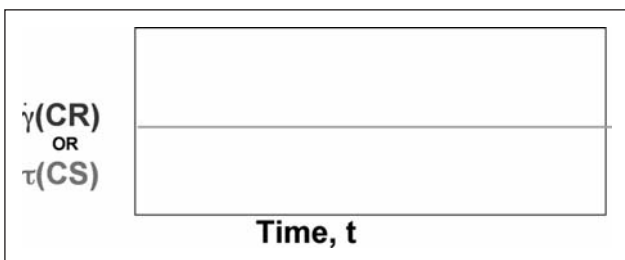
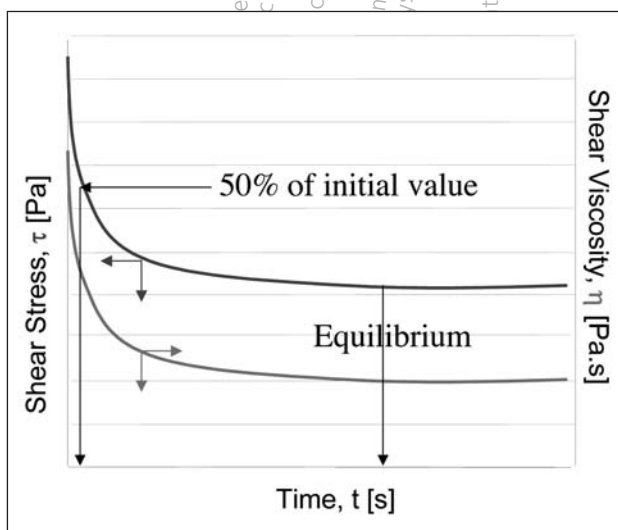

Figure 4: Input for constant shear test
Figure 5: Results from a constant shear test
- A constant shear rate (CR) or shear stress (CS) is chosen, as is the number of measurement points.
- The material is subjected to a shear rate profile, like in Figure 4.
- The reaction of the material to the imposed shear rate (reaction = shear stress) or shear stress (reaction = shear rate) is measured and the viscosity calculated according to equation (1).
- The results of the steady shear rate experiment are viscosity and shear stress curves, as illustrated in Figure 5.
The thixotropy of different materials can be compared by comparing the times taken to reach a certain % of the initial shear stress, or some fixed value of the shear stress, or an equilibrium value (see Figure 5).